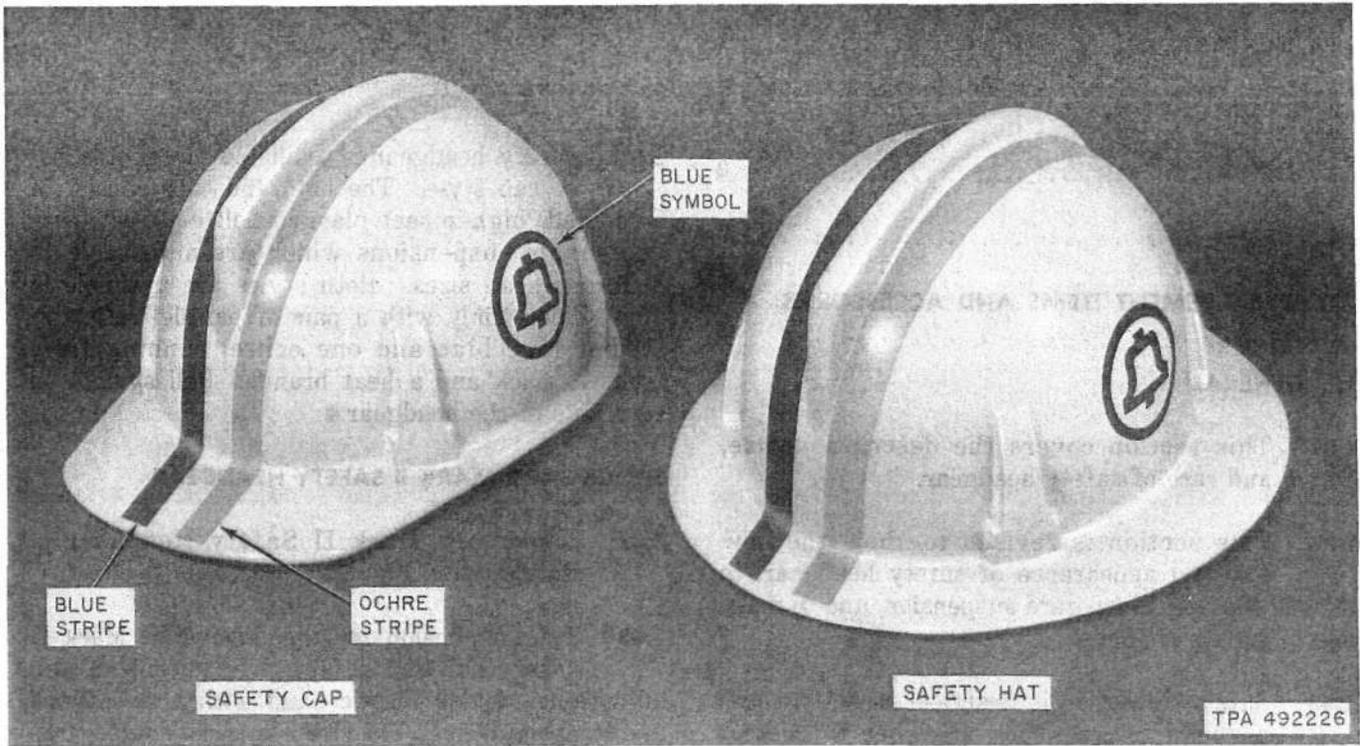

Fig. 1—Shockgard Mark II Safety Headgear
- 2.02 Shockgard Mark II Safety Headgear is illustrated in Fig. 1.